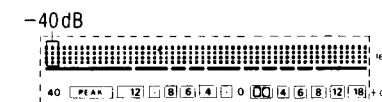

Fig. 10
5. Adjust VR401 so that the -40dB segment part is half lighted. (See Fig. 10.)